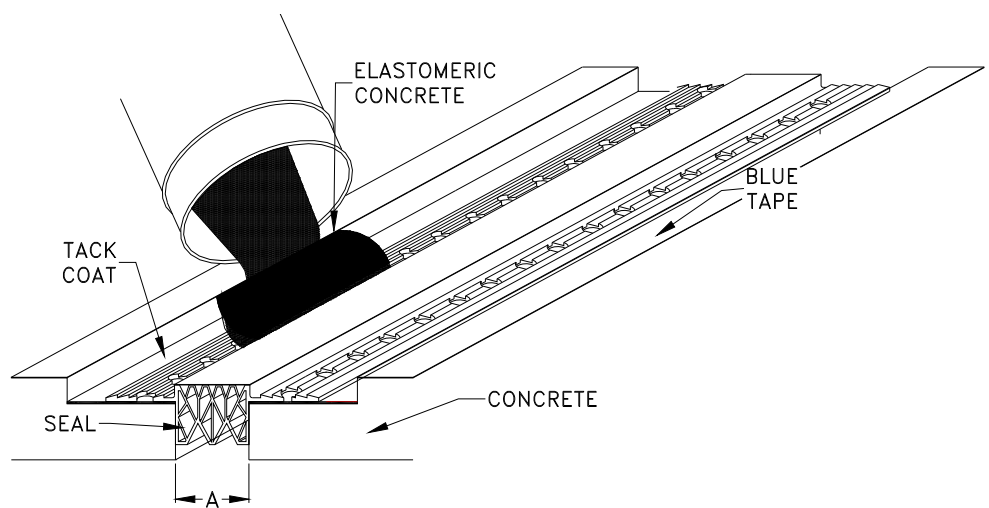

Figure 8
- STEP 10.** Pour the Balco Elastomeric Concrete - EC11 into the blackout and trowel smooth from the upper outer ridge of the seal to the blackout corner (see Figure 8). Ensure that the Elastomeric Concrete - EC11 is level and that it extends above the seal approximately 1/4".